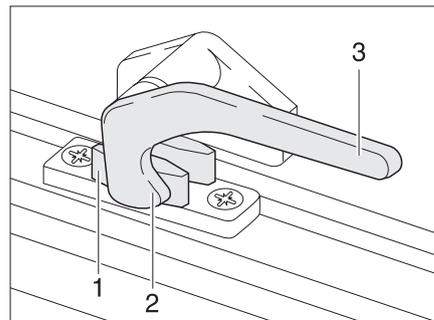

Fig. 23 Catch lever in "closed" position
- ▶ Turn the catch lever (Fig. 23,3) a quarter turn towards the centre of the window.
- ▶ Turn the catch lever (Fig. 23,3) a quarter turn towards the window frame. The locking catch (Fig. 23,2) is located on the inside of the window catch (Fig. 23,1).
- "Firmly closed" (Fig. 23)